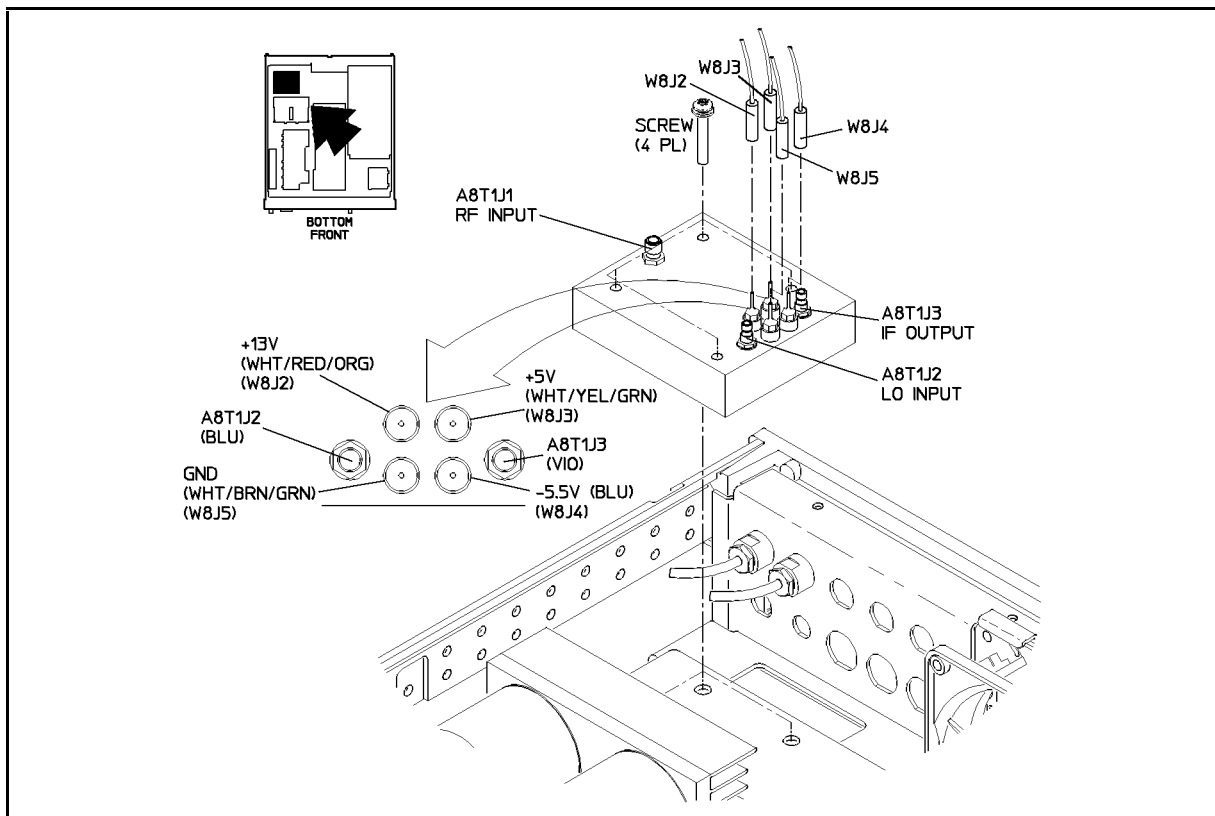

Figure 5-26. Sampler Removal
3. In the “Special Techniques” section of this chapter, refer to “Semi-Rigid Coaxial Cables” and Figure 5-26. Then, using a 5/16 in open end wrench, carefully remove the semi-rigid cable, W40, from the output module SAMPLER OUT connection and the Sampler RF INPUT connector.
4. Disconnect the four single wire lead contacts from the DC cable to the Sampler. See Figure 5-26:
5. Refer to “Flexible Coaxial Cables” and Figure 5-26. Then, using a 15/64 in end wrench, carefully remove the following cables from the SMC connectors:
6. Using a size 10 TORX® screwdriver, remove the four screws securing the Sampler to the microwave deck as in Figure 5-26.
Caution	Some sampler microcircuit assemblies may have an incorrect wire hookup label attached to the bottom side. Ignore all label hookup instructions. Refer to Figure 5-26 for the correct wire configuration. Damage to the sampler and/or other circuits in the synthesizer will result if the wires are not configured properly.
1. Install the Sampler Microcircuit by loosely mounting it to the microwave deck with four mounting screws as shown in Figure 5-26. Do not tighten the mounting screws.